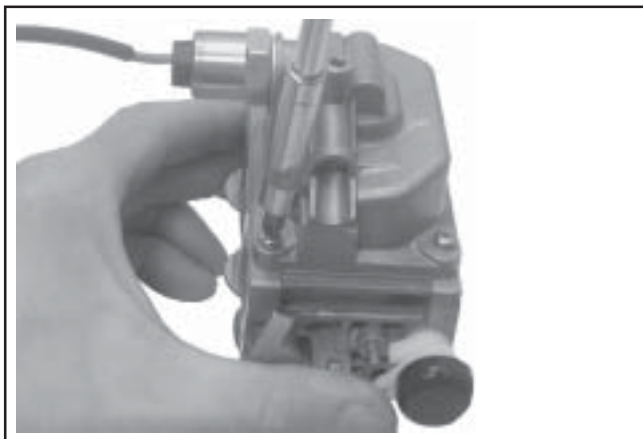

Figure 5-48. Installing Fuel Bowl.
9. When the proper float height is obtained, carefully reinstall the fuel bowl, using new O-Rings onto the carburetor. Secure with the four original screws. Torque the screws to  $2.5 \pm 0.3$  N·m ( $23 \pm 2.6$  in. lb.). See Figure 5-48.